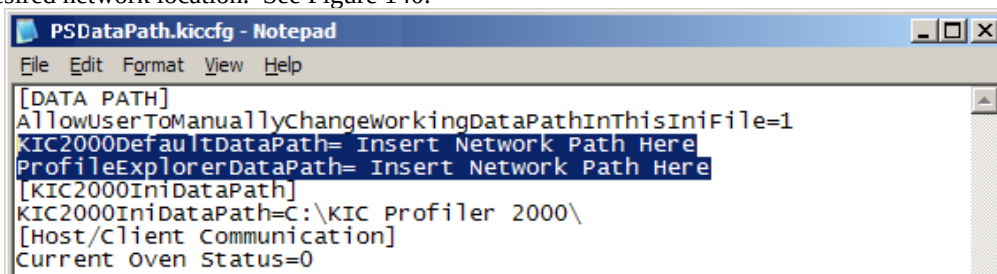

Figure 140
4. Change both the KIC2000DefaultDataPath= and ProfileExplorerDataPath= lines to the desired network location. See Figure 140.